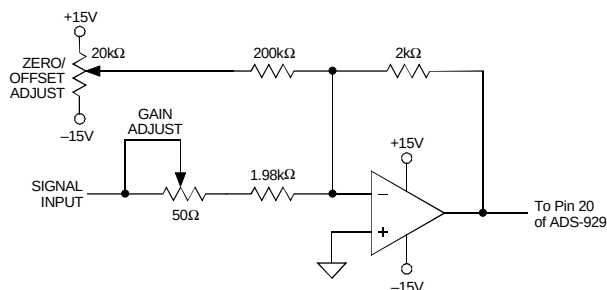

Figure 2. ADS-929 Calibration Circuit
Bypass all power supplies, as well as the REFERENCE OUTPUT (pin 21), to ground with 4.7µF tantalum capacitors in parallel with 0.1µF ceramic capacitors. Locate the bypass capacitors as close to the unit as possible. If the user-installed offset and gain adjusting circuit shown in Figure 2 is used, also locate it as close to the ADS-929 as possible.
2. The ADS-929 achieves its specified accuracies without the need for external calibration. If required, the device's small initial offset and gain errors can be reduced to zero using the input circuit of Figure 2. When using this circuit, or any similar offset and gain-calibration hardware, make adjustments following warmup. To avoid interaction, always adjust offset before gain.
(Refer to Figures 2 and 3)
Any offset and/or gain calibration procedures should not be implemented until devices are fully warmed up. To avoid interaction, offset must be adjusted before gain. The ranges of adjustment for the circuit of Figure 2 are guaranteed to compensate for the ADS-929's initial accuracy errors and may not be able to compensate for additional system errors.
All fixed resistors in Figure 2 should be metal-film types, and multiturn potentiometers should have TCR's of 100ppm/°C or less to minimize drift with temperature.